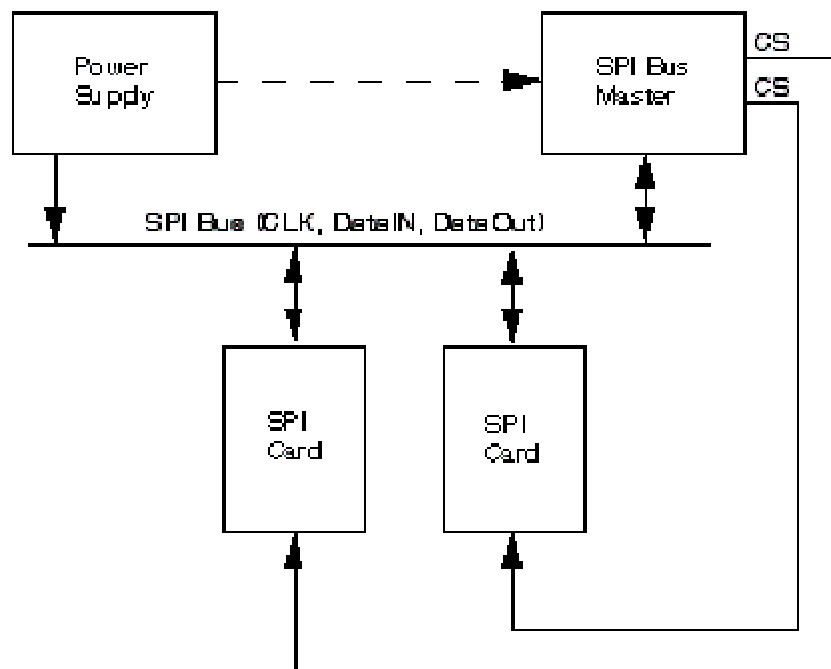

Figure 3-4. Industrial Grade SD Card Bus System
The Industrial Grade SD Card identification and addressing algorithms are replaced by a hardware Chip Select (CS) signal. A card (slave) is selected, for every command, by asserting (active low) the CS signal (see Figure 3-4). The CS signal must be continuously active for the duration of the SPI transaction (command, response and data). The only exception is card programming time. At this time the host can de-assert the CS signal without affecting the programming process.